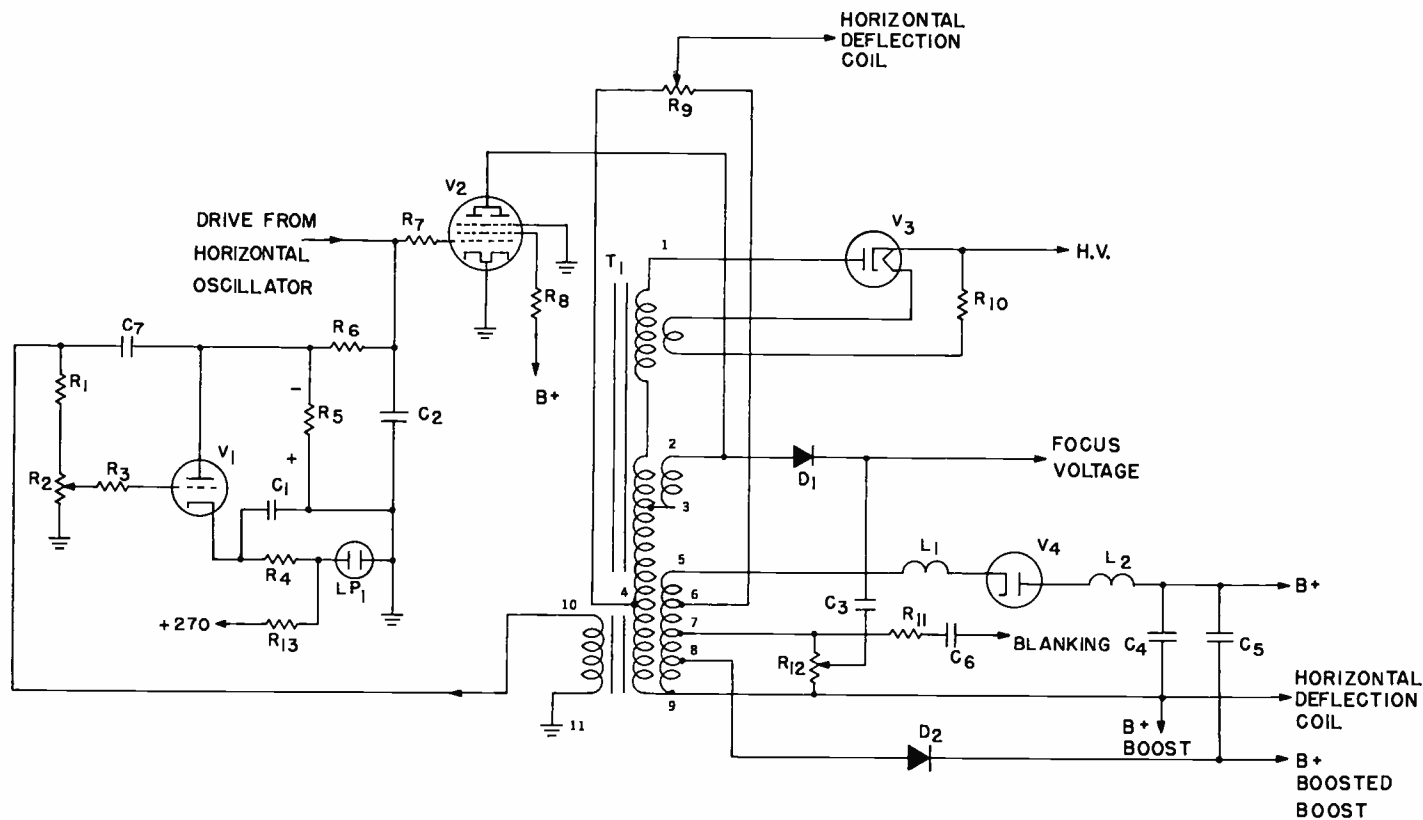

Fig. 33. A regulated high-voltage power supply for a color TV receiver.
The second method of regulating the high-voltage in a color TV receiver is to regulate the current through the horizontal-output tube. Since the high-voltage will depend primarily on the current through this tube, controlling this current will maintain the high-voltage essentially constant. A circuit in which this method is employed is shown in Fig. 33. The regulator tube is V_1 and the horizontal output tube is V_2 . Let's see how this circuit works.
- (x) How is the high-voltage regulated in the circuit shown in Fig. 33?